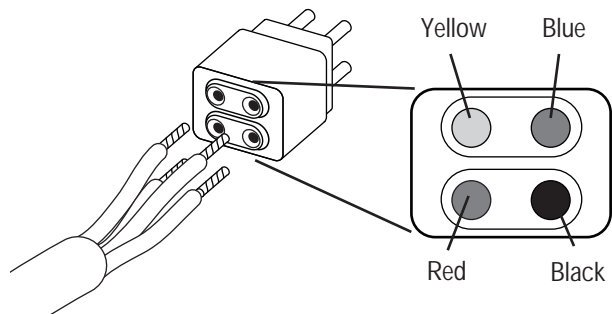

Fig. 12 Insert lamp cord leads into lamp connector.
5. Locate lamp connector and insert 4 lamp cord leads as shown. (See fig.12)